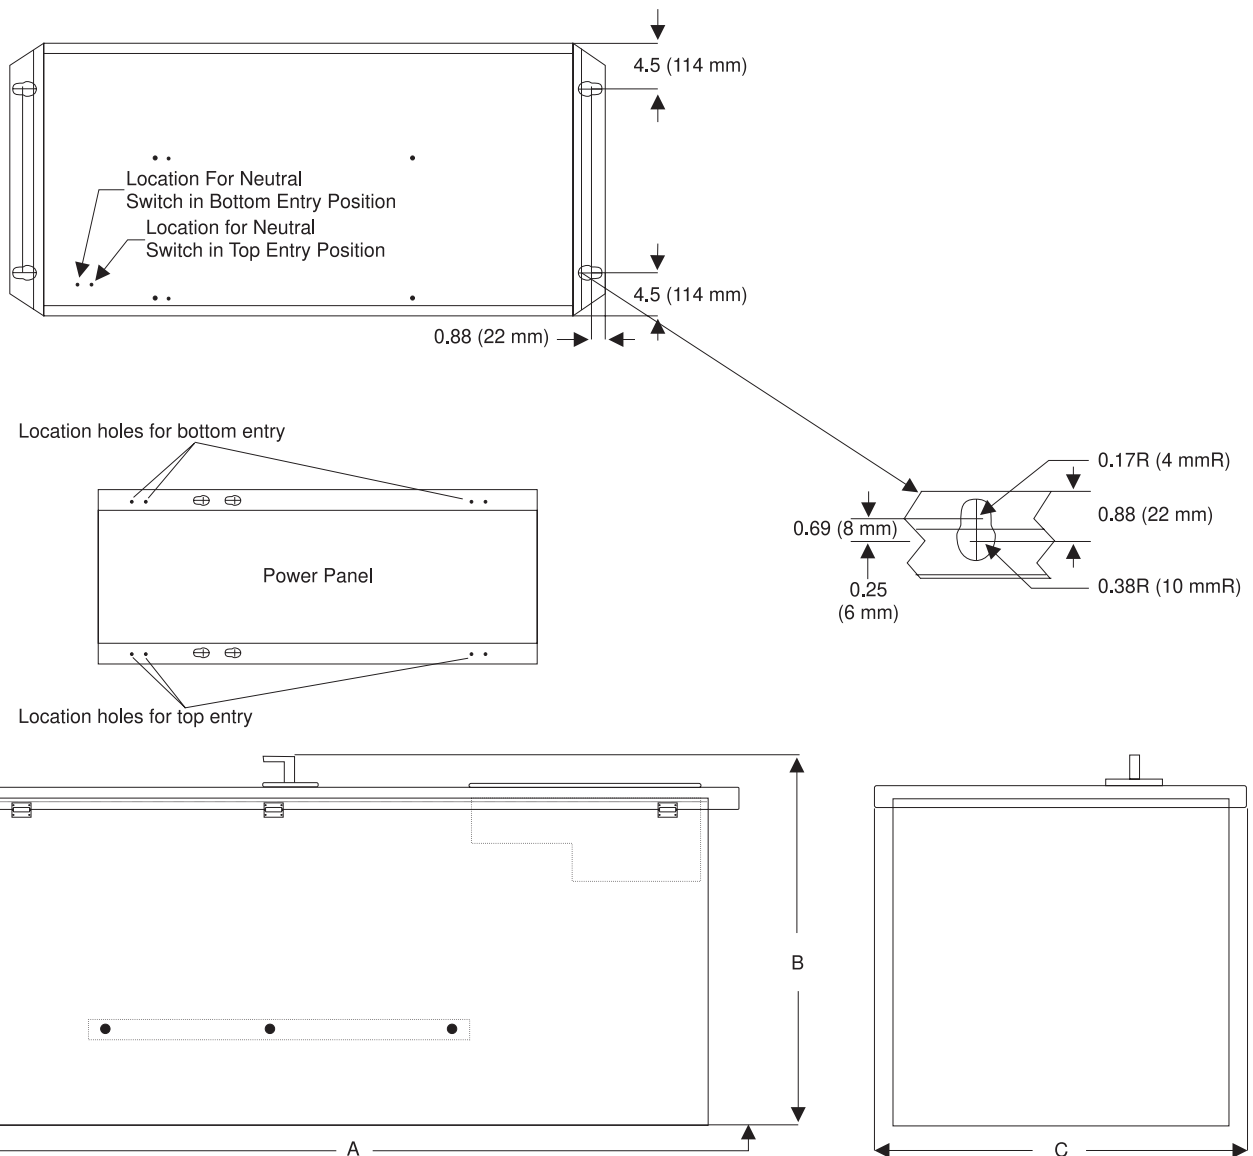

Figure 4-1 Dimensions of Enclosed Automatic Transfer Switch and Approximate Weights
Choose a location that offers a flat, rigid mounting surface capable of supporting the weight of the enclosed transfer switch equipment (Figures 4.1). Avoid locations that are moist, hot, or dusty, however, there are enclosure designs available for special environments. If there are any doubts as to location suitability, discuss them with your Cutler-Hammer representative.
Refer to Figures 4.1 for enclosure and power panel mounting dimension references. All vertical design transfer switch equipment enclosures and power panels are of the same design. Only the overall physical dimensions change. Note in Figure 4.1 that the enclosure is provided with four elongated mounting holes, two in the top mounting flange and two in the bottom. Also notice that the power panel has two sets of mounting holes. One set positions the panel for top entry of cables and one set for bottom entry. This will be covered in more detail in Section 4.4
**At this point, take the time to refer to Figure 4-1 and become familiar with the inside rear of the enclosure and the power panel mounting provisions available for both top and bottom entry. It will facilitate reinstallation of the power panel.**